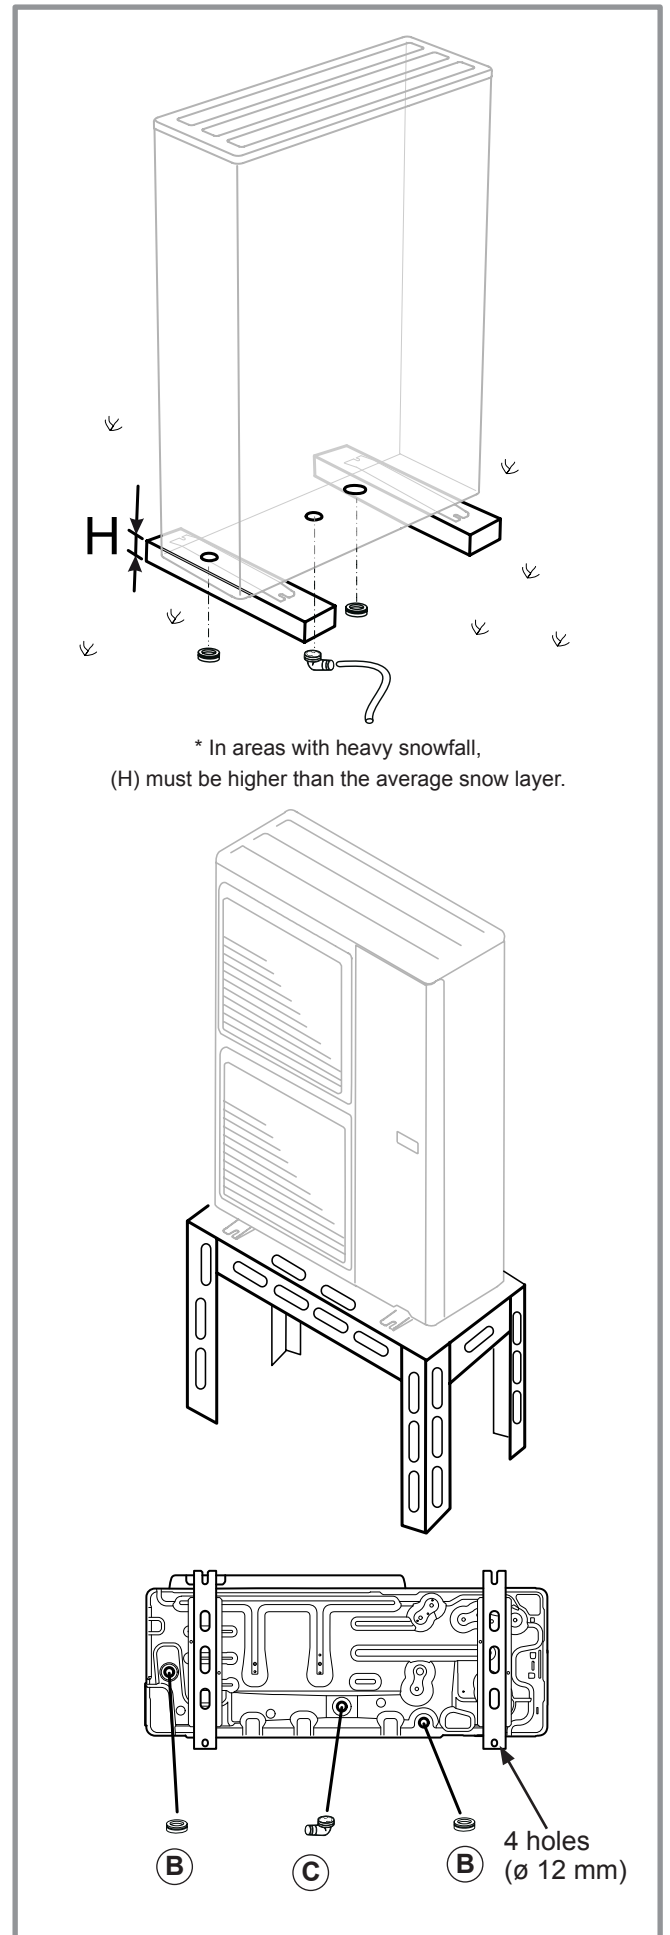

figure 14 - Installation of the outdoor unit
- Water may flow out of the outdoor unit when it is operating. Do not install the unit on a paved terrace; choose a well-drained location (e.g. gravel or sand). If installation is carried out in an area where the temperature stays below 0°C for long periods, check that the presence of ice does not present any danger. A drainage pipe can also be connected to the outdoor unit (figure 14).
The outdoor unit must be raised at least 50 mm above ground level. In areas prone to snow, this height should be increased but should not exceed 1.5 m (figure 14).
(see figure 14).